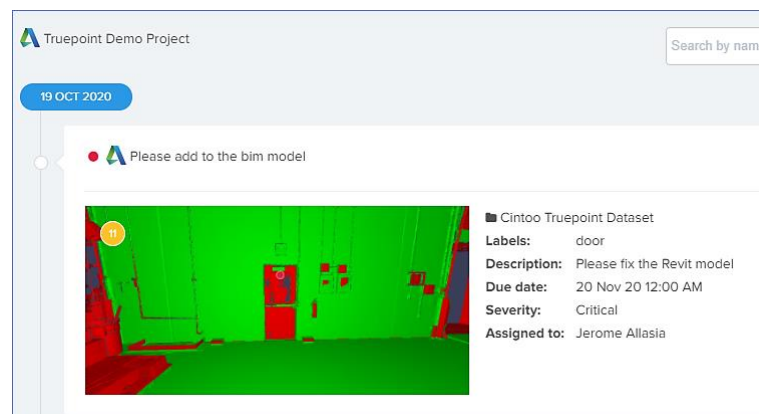

FIGURE 21: PUSHING ISSUE TO BIM 360
- Click on Autodesk icon to push to BIM 360: (Figure 21)